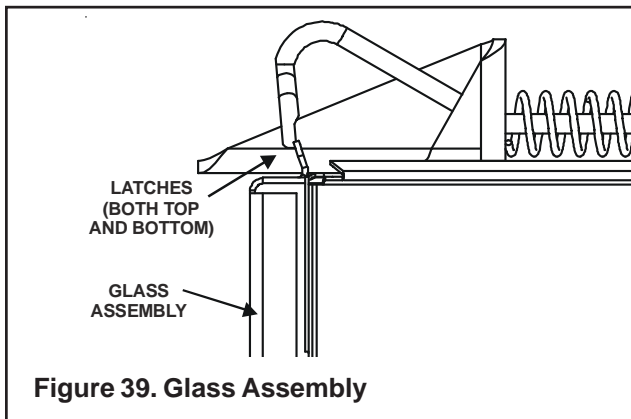

Figure 39. Glass Assembly
- Release the four glass clips around the glass door. Carefully lift the glass up and out away from the appliance (see Figure 39).
- To replace the glass door, place the bottom edge on top of the bottom mounting brackets. Push glass against unit and latch the two fasteners at the top of the glass door and the two fasteners at the bottom (see Figure 39).